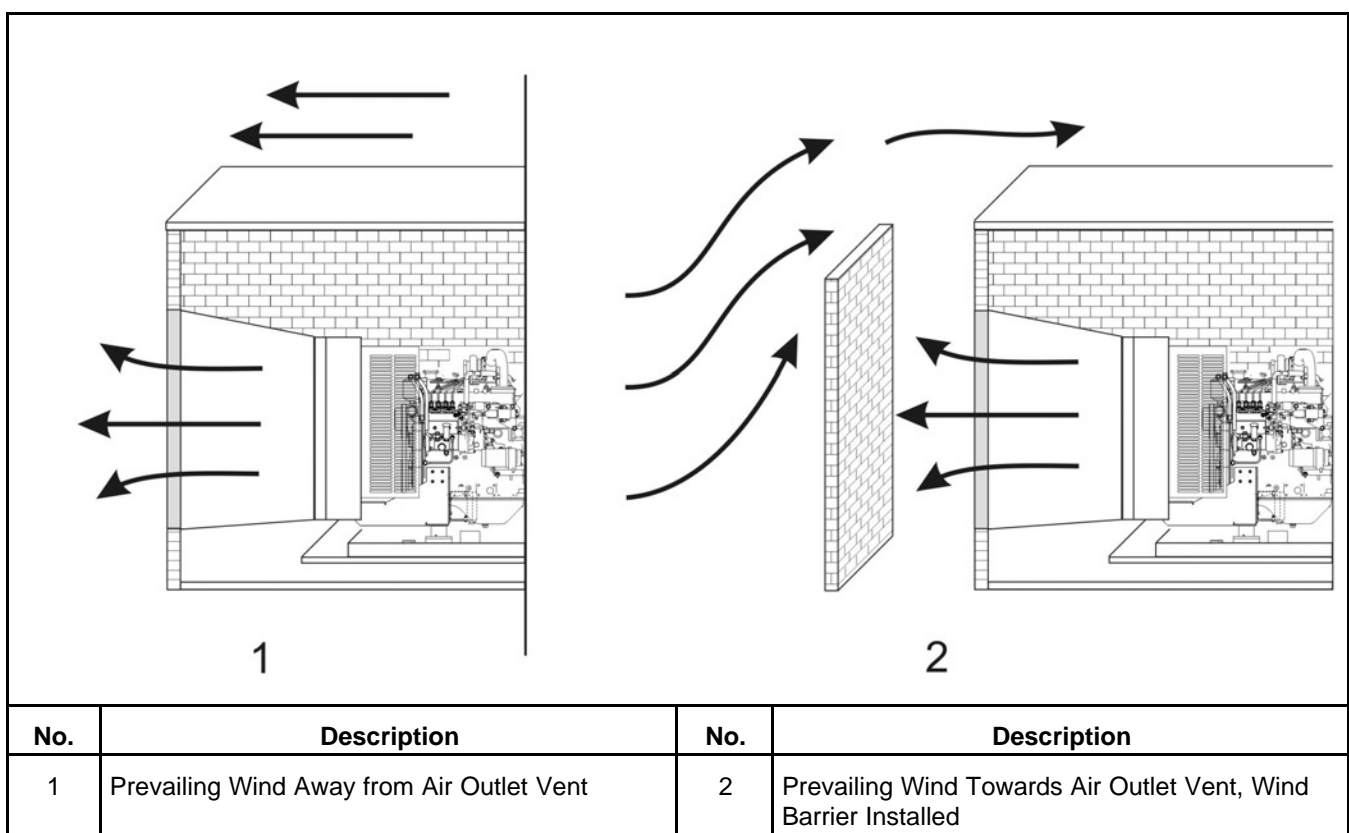

FIGURE 16. WIND BARRIER
3. Wind will restrict free airflow if it blows directly into the air outlet vent. Locate the outlet vent so the effects of wind are eliminated, or if the outlet vent cannot be located as mentioned, install a wind barrier. See Figure 16.